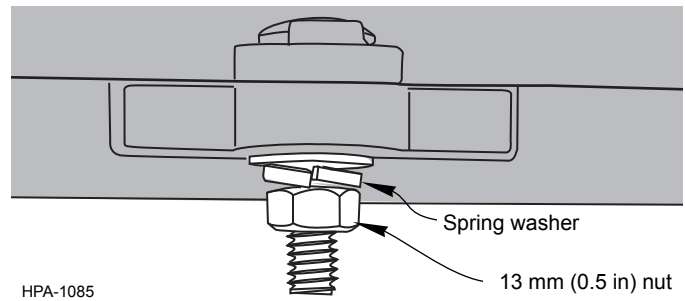

Figure 8
Step 6: Tighten the retaining nut until the spring washer (split washer) is seated, but NOT flattened, using a 13 mm (0.5-in) wrench or tool (Figure 8). Do not overtighten the nut; the recommended torque value for the hardware is 15 ft-lb (180 in-lb).